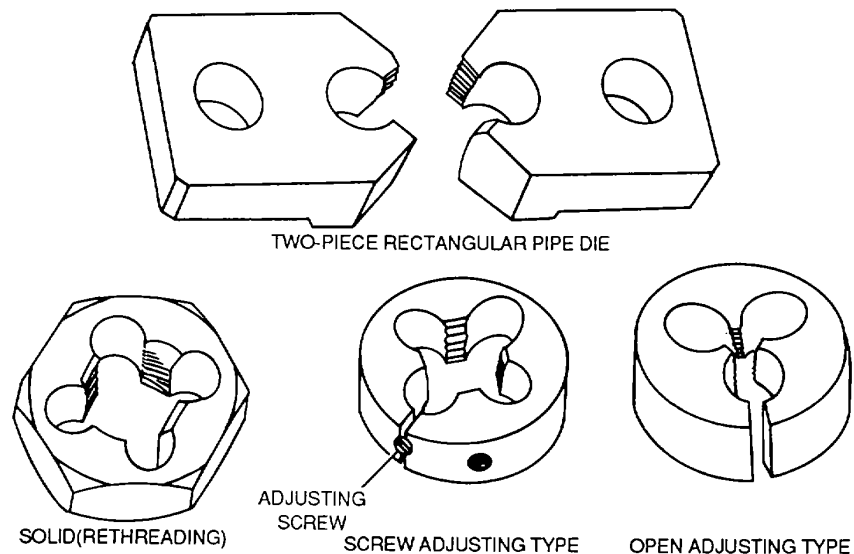

Figure 4-104. Dies
(1) Types. The three types of dies commonly used in the maintenance of Army aircraft are the solid, adjustable-split, and pipe dies, shown in figure 4-104.